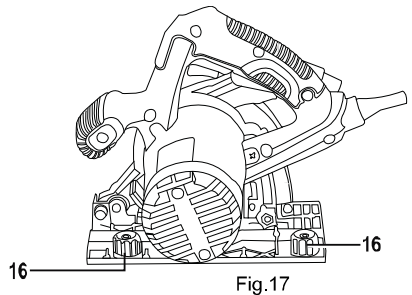

Fig.17
7. Set the Track Tension Adjusters (16) to the minimum tensions setting before placing the saw onto the track.(Fig.17)